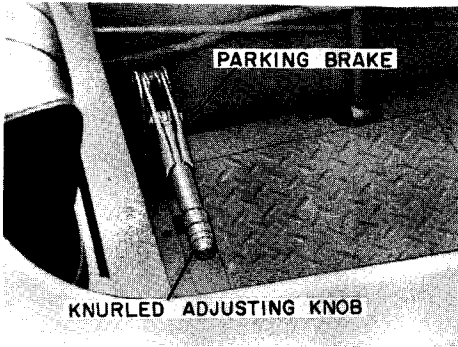

Figure 88
The brake rod and yoke which is connected to the brake lever, Figure 88. To adjust the parking brake by the rod and yoke, disconnect the yoke from the brake lever and turn either on or off for required adjustment.
1. Disconnect the adjusting yoke from the brake lever, Figure 88.